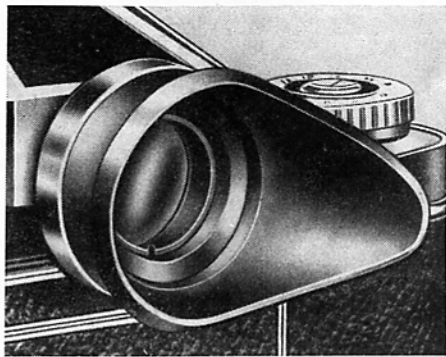

Fig. 20
An invaluable accessory for use with the Penta Prism is the flexible eyepiece cup (Fig. 20): this is fitted on to the eyepiece (46) of the Penta Prism and shields it from distracting straylight. It is also helpful for spectacle-wearers since vision-correction lenses made by one's optician can be inserted into the mount, making it possible to focus without wearing glasses.